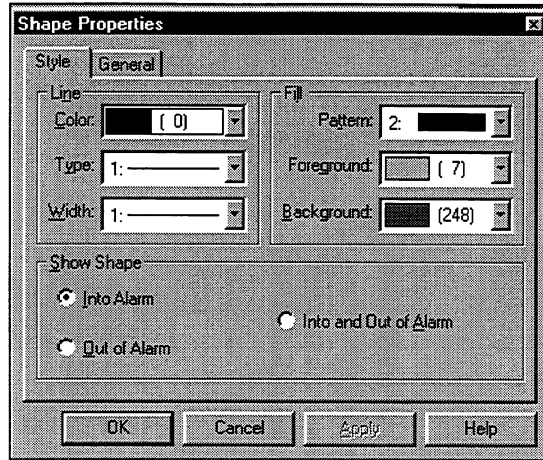

Figure 10-6. Alarm Shape Properties Dialog Box
6. Double-click on the shape to access the Shape Properties dialog box, as shown in Figure 10-6.